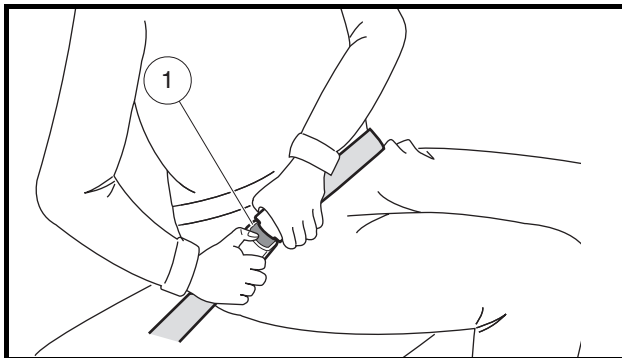

Figure 7 Release Safety Belt
To release the safety belt, press the buckle release button (1) and allow the belt to retract (**Figure 7**). If the belt does not retract smoothly, pull it out and check for kinks or twists. Then make sure it remains free of twists as it retracts.